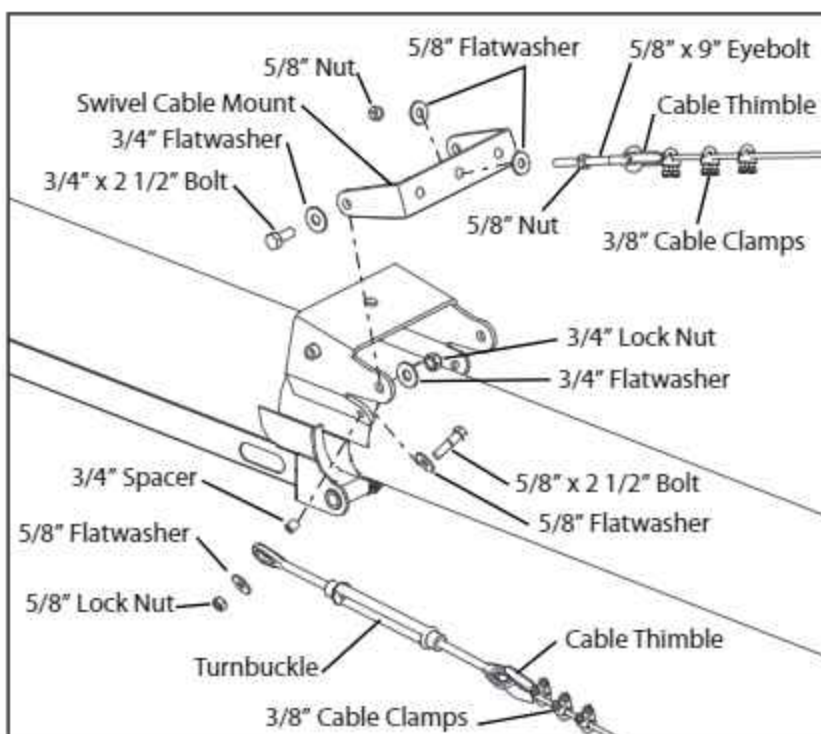

FIG. 3-12. Lower Tube Truss Cable Mounting
7. Attach the Swivel Cable Mount to the tube using the fasteners shown in Fig. 3-12. Do not fully tighten the nuts, the mount must be able to move.
8. Thread a 5/8" nut half way up a 5/8"x 9" eye bolt. Install a 5/8" flat washer onto the eye bolt. Insert the eye bolt into the mount, as shown in Fig. 3-12. Install another 5/8" flat washer on the end of the bolt and thread another 5/8" nut onto the end, just far enough to fully engage the nut.
10. Thread the cable around the thimble. While wearing gloves, pull the cable as tight as possible and install a clamp about 12" from the centre of the eye bolt. Install a second clamp as close as possible to the cable thimble. Install a third clamp half way between the other two. See Fig. 3-12 for the proper clamp orientation.
13. Attach one end of a turnbuckle to the tube using the fasteners shown in Fig. 3-12. Make sure the turnbuckle is fully extended.
8. Thread a 5/8" nut half way up a 5/8" x 9" eye bolt. Install a 5/8" flat washer onto the eye bolt. Insert the eye bolt into the mount, as shown in Fig. 3-12. Install another 5/8" flat washer on the end of the bolt and thread another 5/8" nut onto the end, just far enough to fully engage the nut.
8. Attach the Swivel Cable Mount to the tube using the fasteners shown in Fig. 3-12. Do not fully tighten the nuts, the mount must be able to move.
9. Thread a 5/8" nut half way up a 5/8"x 9" eye bolt. Install a 5/8" flat washer onto the eye bolt. Insert the eye bolt into the truss mount on the top of the tube, as shown in Fig. 3-12. Install another 5/8" flat washer on the end of the bolt and thread another 5/8" nut onto the end, just far enough to fully engage the nut.
14. Attach one end of a turnbuckle to the tube using the fasteners shown in Fig. 3-12. Make sure the turnbuckle is fully extended.